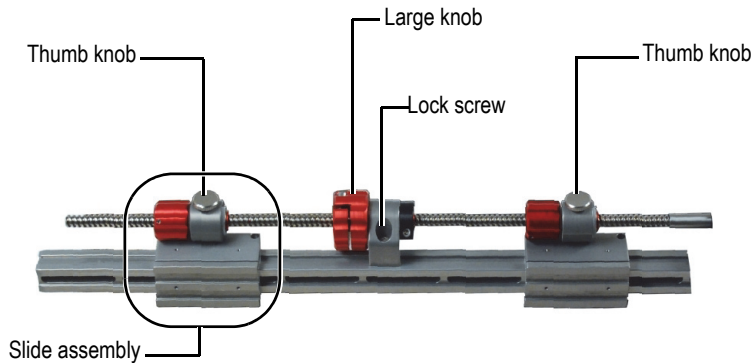

Figure 2-11 The slide bar assembly
3. Rotate the large knob to adjust the position of the pair of probes (see Figure 2-11 on page 44).